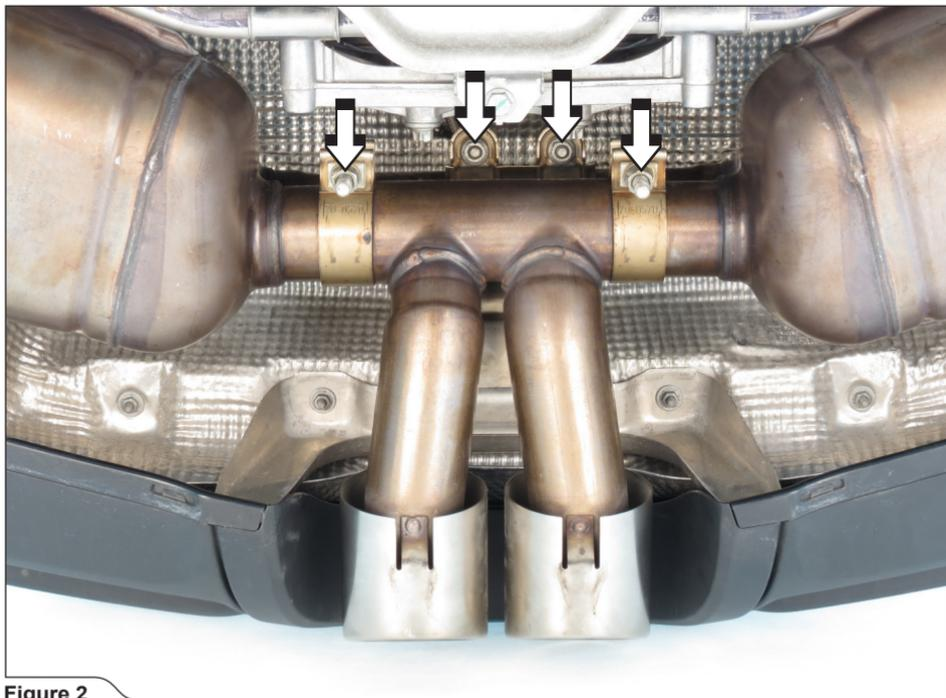

Figure 2
- Loosen the marked tail pipes' clamps and double clamp. Slide the tail pipes and double clamp off the joints (**Figure 2**).